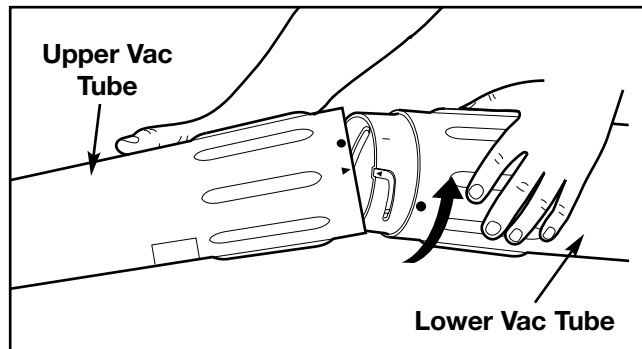

Fig. 12
1. Align the arrow on the lower vacuum tube with the arrow on the upper vacuum tube (Fig. 12).